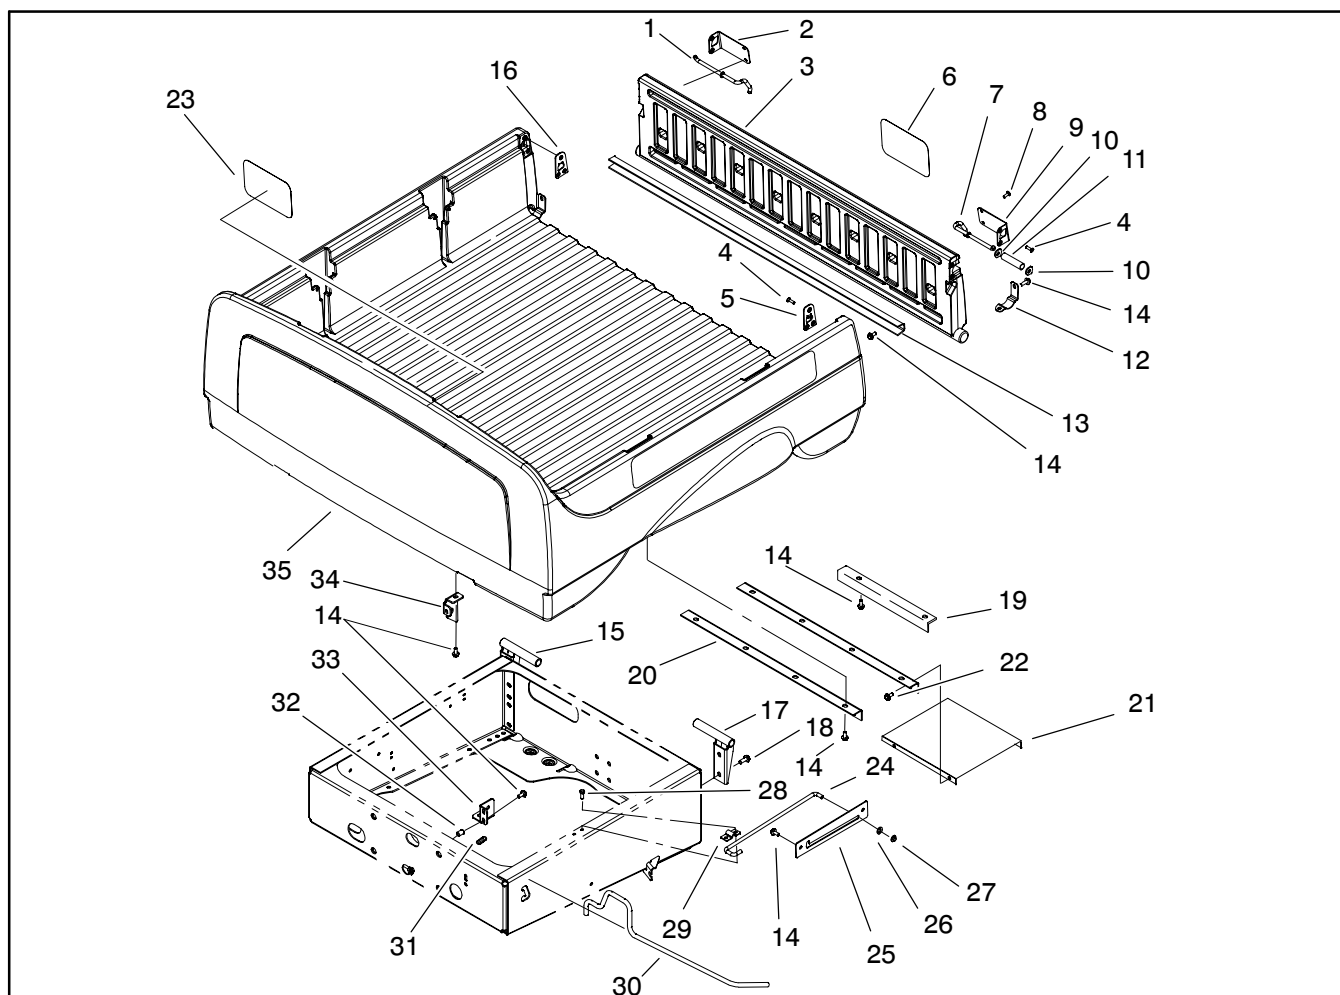

Figure 29
3. Release latch rod from the latch bracket. Remove cargo bed from the frame. Disassemble cargo bed as necessary using Figure 29 as a guide.
1. Reassemble cargo bed using Figure 29 as a guide.